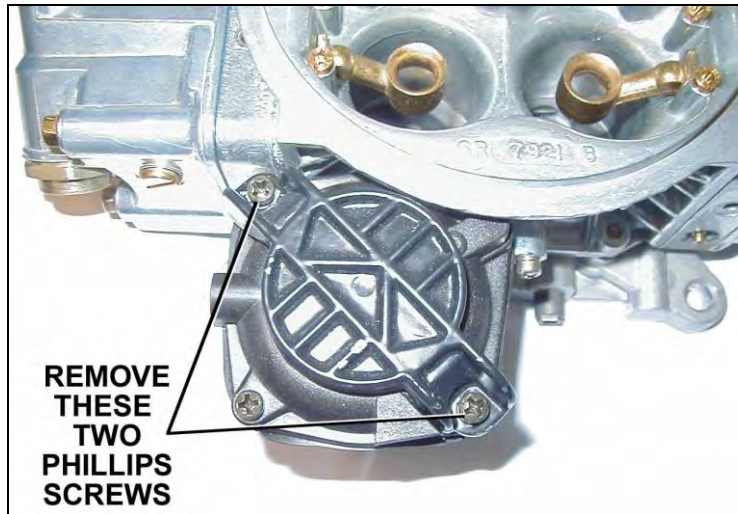

Figure 13
2. Remove the 2 Phillips screws from the black vacuum diaphragm spring cap (Figure 13).
8. Tighten the two Phillips screws securely and reinstall the air cleaner, as shown in Figure 13.